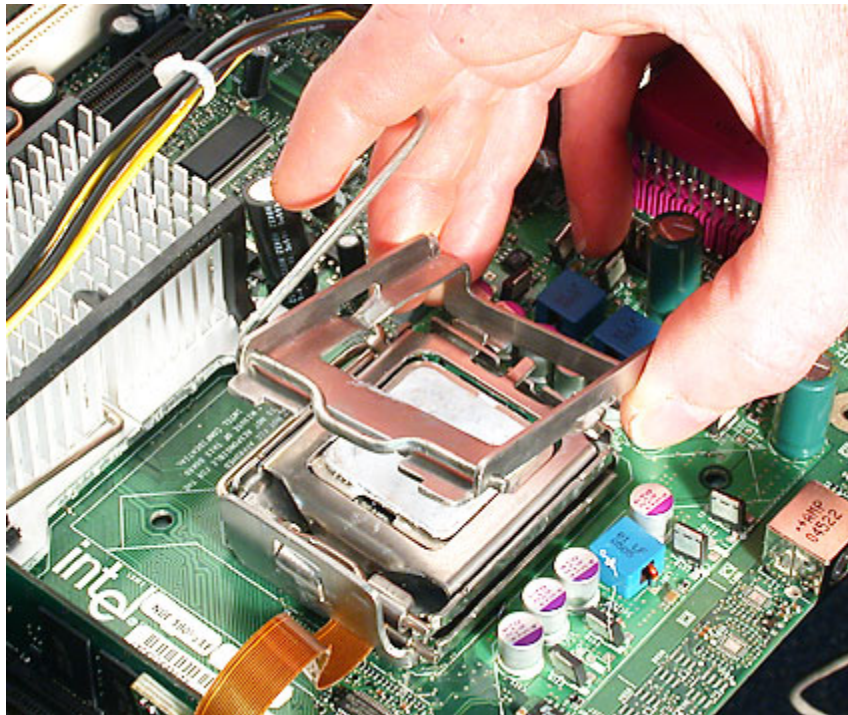

Figure 2.08 Hooking the Top Clamp hinges into the slots of the on-board socket
8. Insert the hinges (hooks) of the Top Clamp into the hinge slots of the on-board socket (the Load Plate was removed from these slots in step 2). Ensure that these Top Clamp hinges are fully engaged in the slots (Figures 2.08 and 2.09).